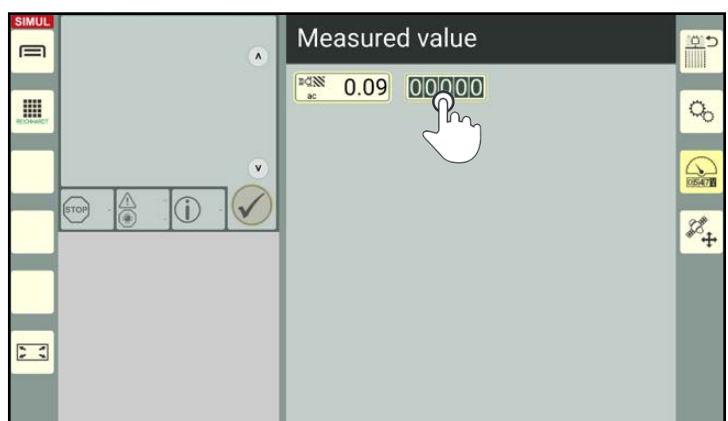

Fig. 327: Viewing and resetting the worked area
Tap the tachometer symbol on the right edge of the screen to open the settings for the measured values (see Fig. 327).
- Reset the area counter by tapping the right box (see Fig. 327).